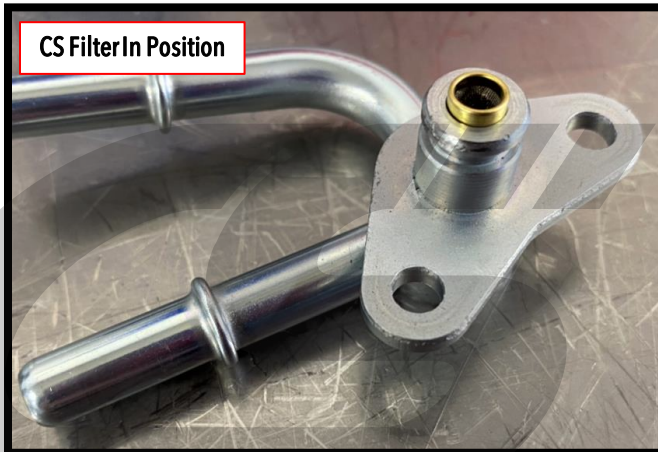

Figure 3f
- i) Once satisfied with your cleaning job, locate the CorkSport Fuel Filter. It installs with the stainless portion inside the fuel feed/return fitting as shown in **Figure 3f**.